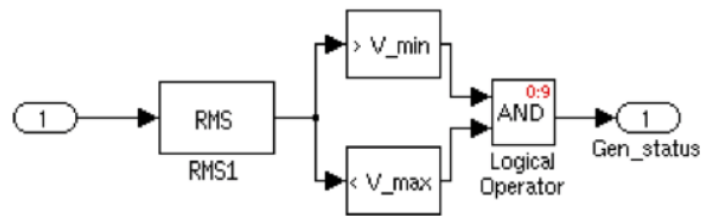

Figure 3: Simulink block to monitor the generators RMS voltage and detect violations of the desired range.
- To generate events for your BPCU, you will need to monitor each generators output voltage and make sure that the RMS voltage is between  $V_{min}$  and  $V_{max}$ . As an example, you can implement such an RMS sensor out of Simulink standard library blocks, as shown in Figure 3. Gen status is one if and only if the signal RMS voltage is in the desired range. Also, the RMS block in Figure 3 requires a frequency parameter, which should be set to 400 Hz.